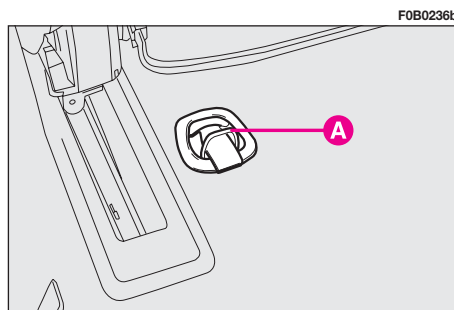

fig. 72
– for seats positioned facing the running direction, fasten the upper belt (in the upper seat pocket) to the ring **A**-**fig. 72** located on the floor immediately behind the seat: